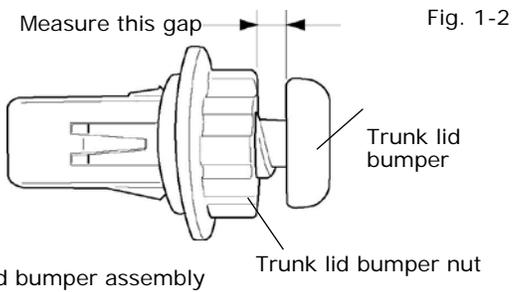

Fig. 1-2
- 2) Use a small ruler to measure the gap between the bottom of the trunk lid bumper and the top of the trunk lid bumper nut (RH/LH: 1 location each). See Fig.1-2.